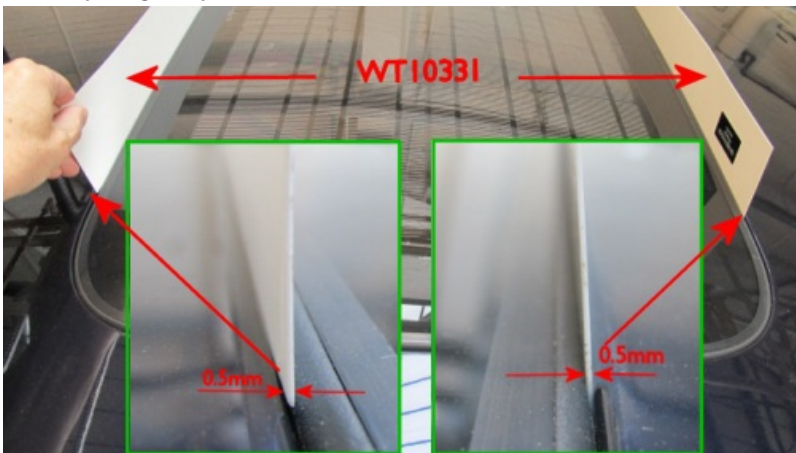

Figure 4
6. Use setting gauges WT 10331 to set a 0.5mm gap between both the rear edge of the glass/solar panel and the body aperture and the front edge of the glass/solar pane and body aperture (see Figure 4)